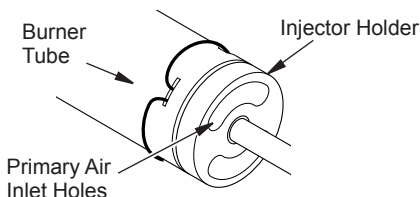

Figure 33 - Injector Holder On Outlet Burner Tube - Rear Burner
2. Inspect burners, pilot and primary air inlet holes on injector holder for dust and dirt (see Figures 33 or 34).